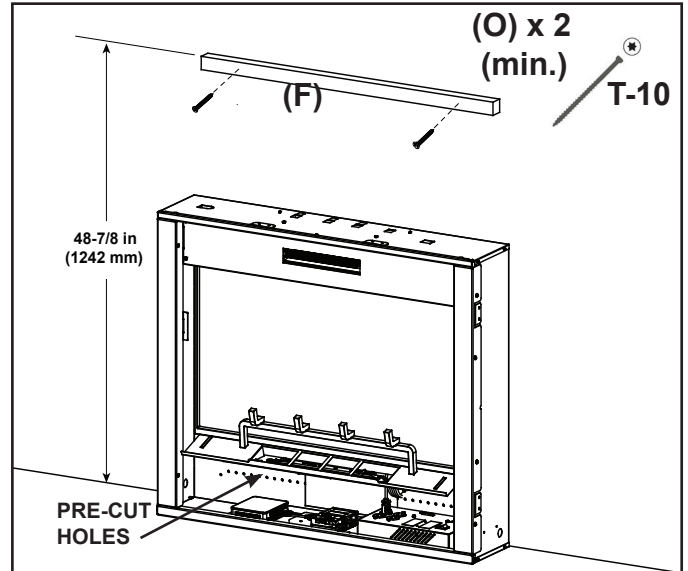

Figure 4
1. Locate studs in the wall behind the appliance. Attach ledger board to a minimum of two studs using 3" screws (O) at a height of 48-7/8" from the floor to the top of the ledger board. See Figure 4.